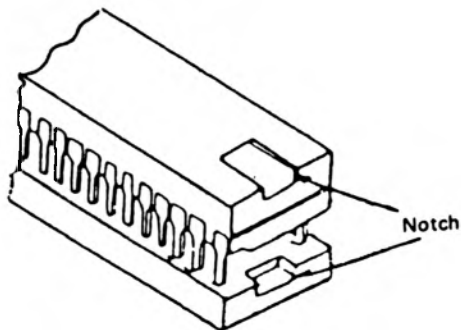

Figure 14
11. To install the new ICs make sure that the notch in the IC is aligned with the notch in the socket as shown in Figure 14. Carefully insert the IC into the socket making sure that all of the pins on the IC enter their respective holes in the socket.